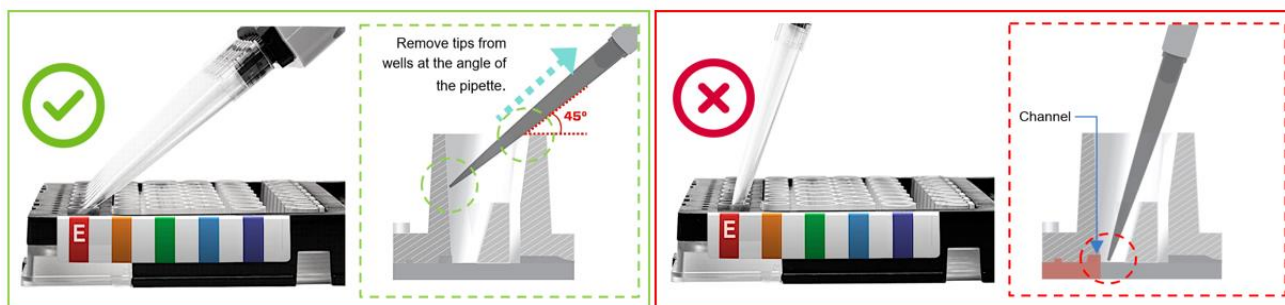
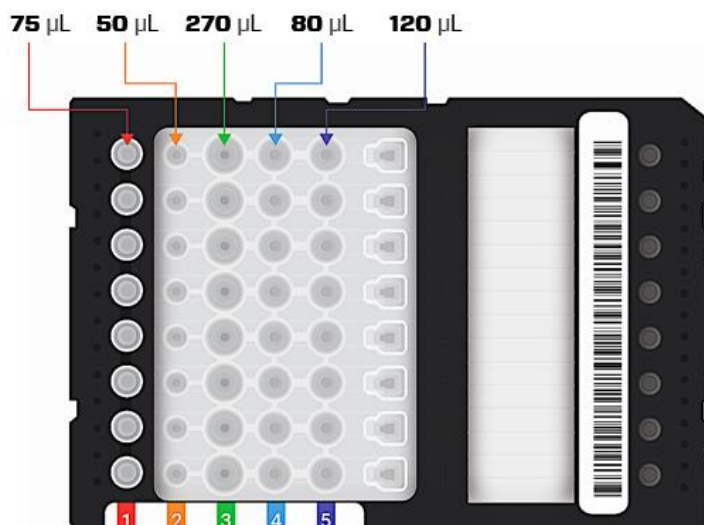

Figure 4. Proper (left) and improper (right) pipetting techniques for fluidic chip buffer wells.
Figure 5. G2 FFPE To RNA purification buffer dispense volumes.
- Using a P200 multichannel pipette and the proper pipetting technique shown in **Figure 4**, add the appropriate volume of each purification buffer as shown on the screen (also see **Figure 5**), working left to right (1 to 5), to the fluidic chip.